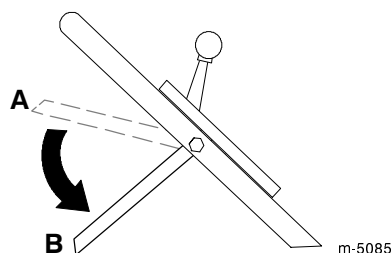

Figure 17
10. Release the blade control bail; refer to position *B* in Figure 17. You should hear a “bang.” The blade should stop in three seconds.
2. Move the blade control bail down to its lowest position (Position *B* in Fig. 17).